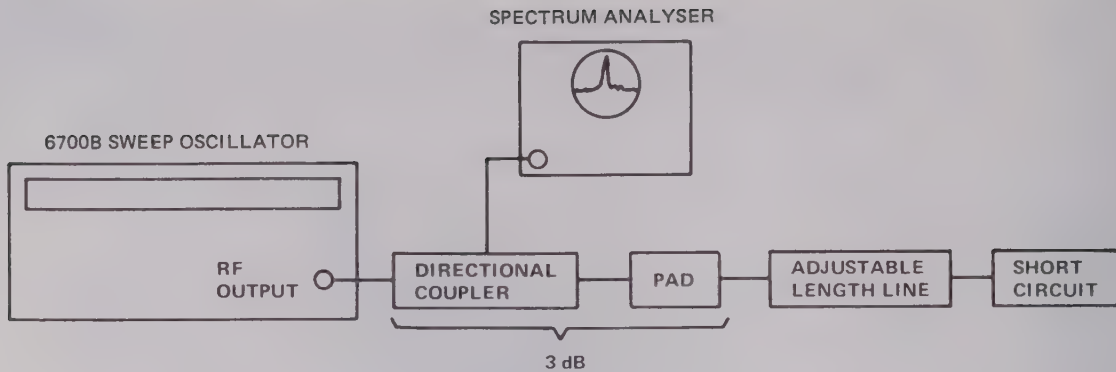

Fig. 3 ΔF vs. 3:1 load v.s.w.r. test set-up
- (1) Connect the equipment as shown in Fig. 3.